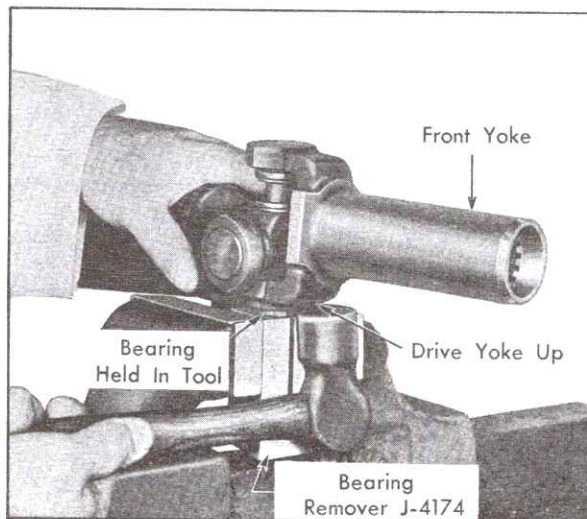

Fig. 4-24 Removing Universal Joint Bearing
5. Place Bearing Remover with bearing in vise. Tighten vise until bearing is held securely by tool, then drive yoke away from tool until bearing is removed, Fig. 4-24.